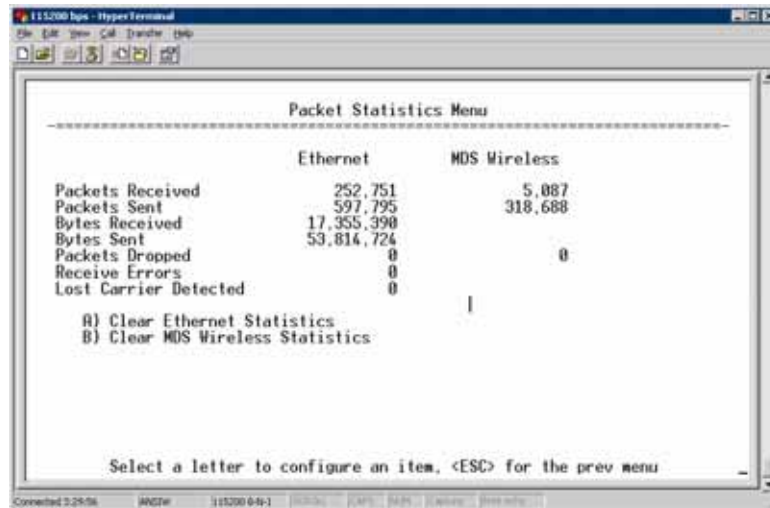

Figure 3-86. Packet Statistics Menu
- **Packet Statistics**—Multiple radio and network operating statistics. (See Figure 3-86 on Page 114 for details.)